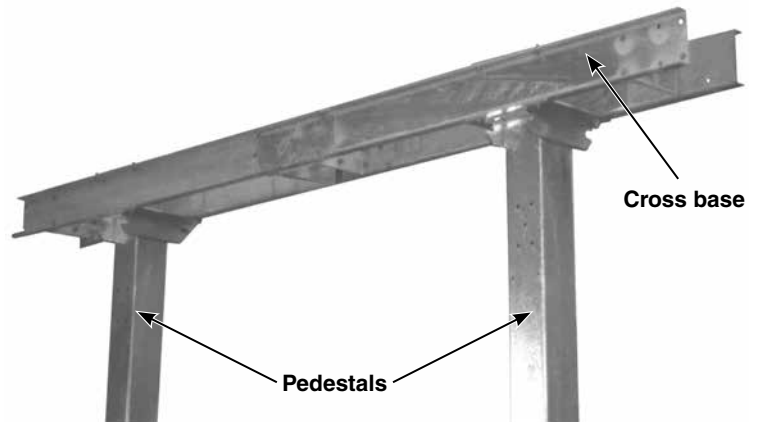

Figure 22. Lift the cross base atop the mounting pedestals.
- c. Position the cross base on the pedestals. **Make sure the cross base is positioned such that the side to which the conduit assembly will be attached, is facing the desired direction for the installation.** Refer to the catalog drawing. See Figure 22.